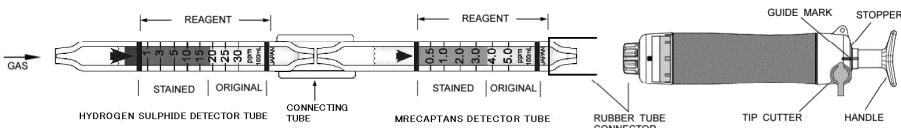

Fig.1
- ① Break both ends of detector tube, and connect each end of detector tubes with a rubber tube as shown in Fig.1. (Arrow mark shall point to the pump.)
- ② Insert the MERCAPTANS detector tube into aspirating pump securely as shown in Fig.1. (Arrow mark shall point to the pump.)
- ③ Align the guide marks on the shaft and stopper of the aspirating pump.
- ④ Pull the pump handle at full stroke until it locks and wait for 3 minutes or until the completion of sampling is confirmed with the flow indicator of the pump (See descriptions about the flow indicator in the instructions of the pump).
- ⑤ On completion of sampling, read the scale at the maximum point of the stained layer.
- ① Temperature: No corrections is necessary.
- ② Humidity: Hydrogen sulphide: No corrections is necessary.